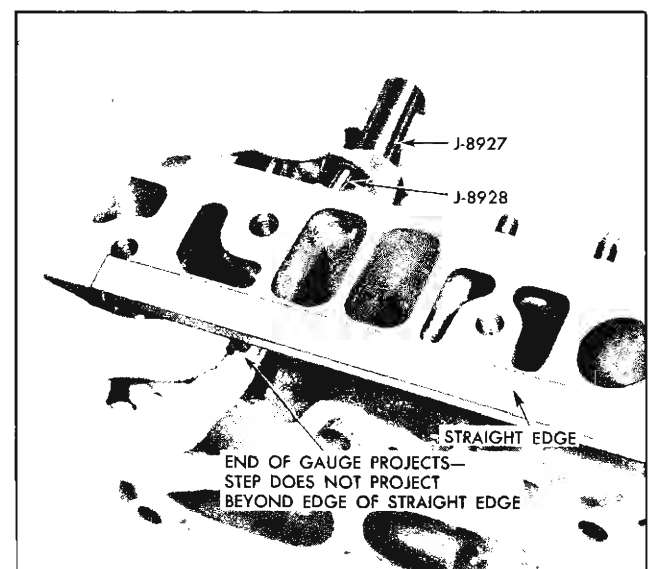

Fig. 6-31 Checking Stud Height
**NOTE:** It will be necessary to clamp a straight edge along the edge of the cylinder head as shown in Fig. 6-31 to simulate this gasket surface.
a. Position rocker arm on stud and hold in place using Rocker Arm Stud Installer J-8927. Slip valve into place and hold it against valve seat. While holding rocker arm and valve in position securely, insert Valve Train Gauge through push rod hole and seat snugly in push rod seat of rocker arm (Fig. 6-31). With all parts seated, step end of gauge should be at least flush with gasket face of head, but should not project past the step on the gauge.